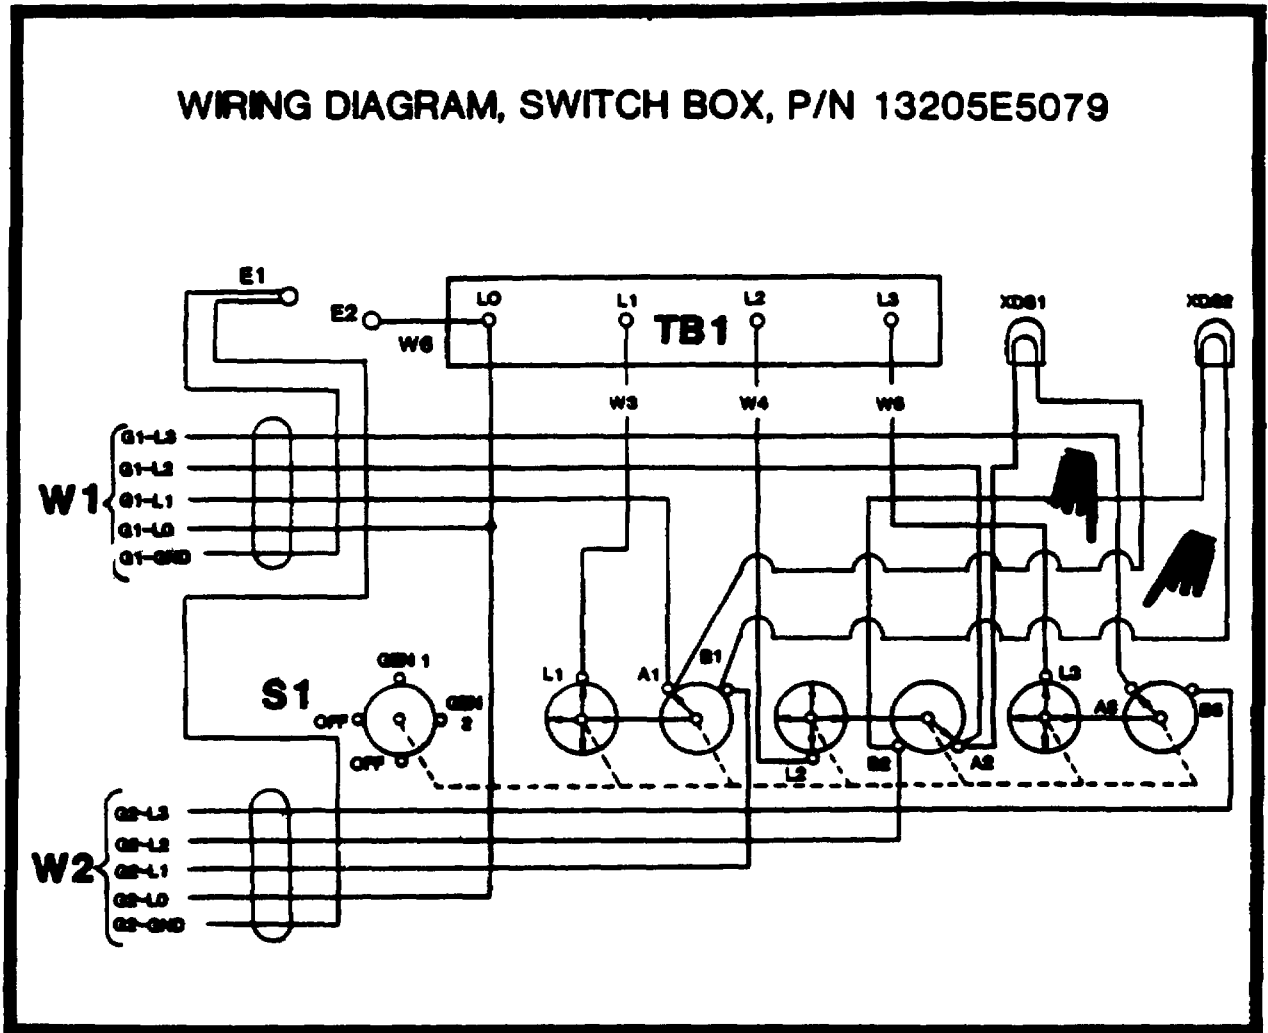
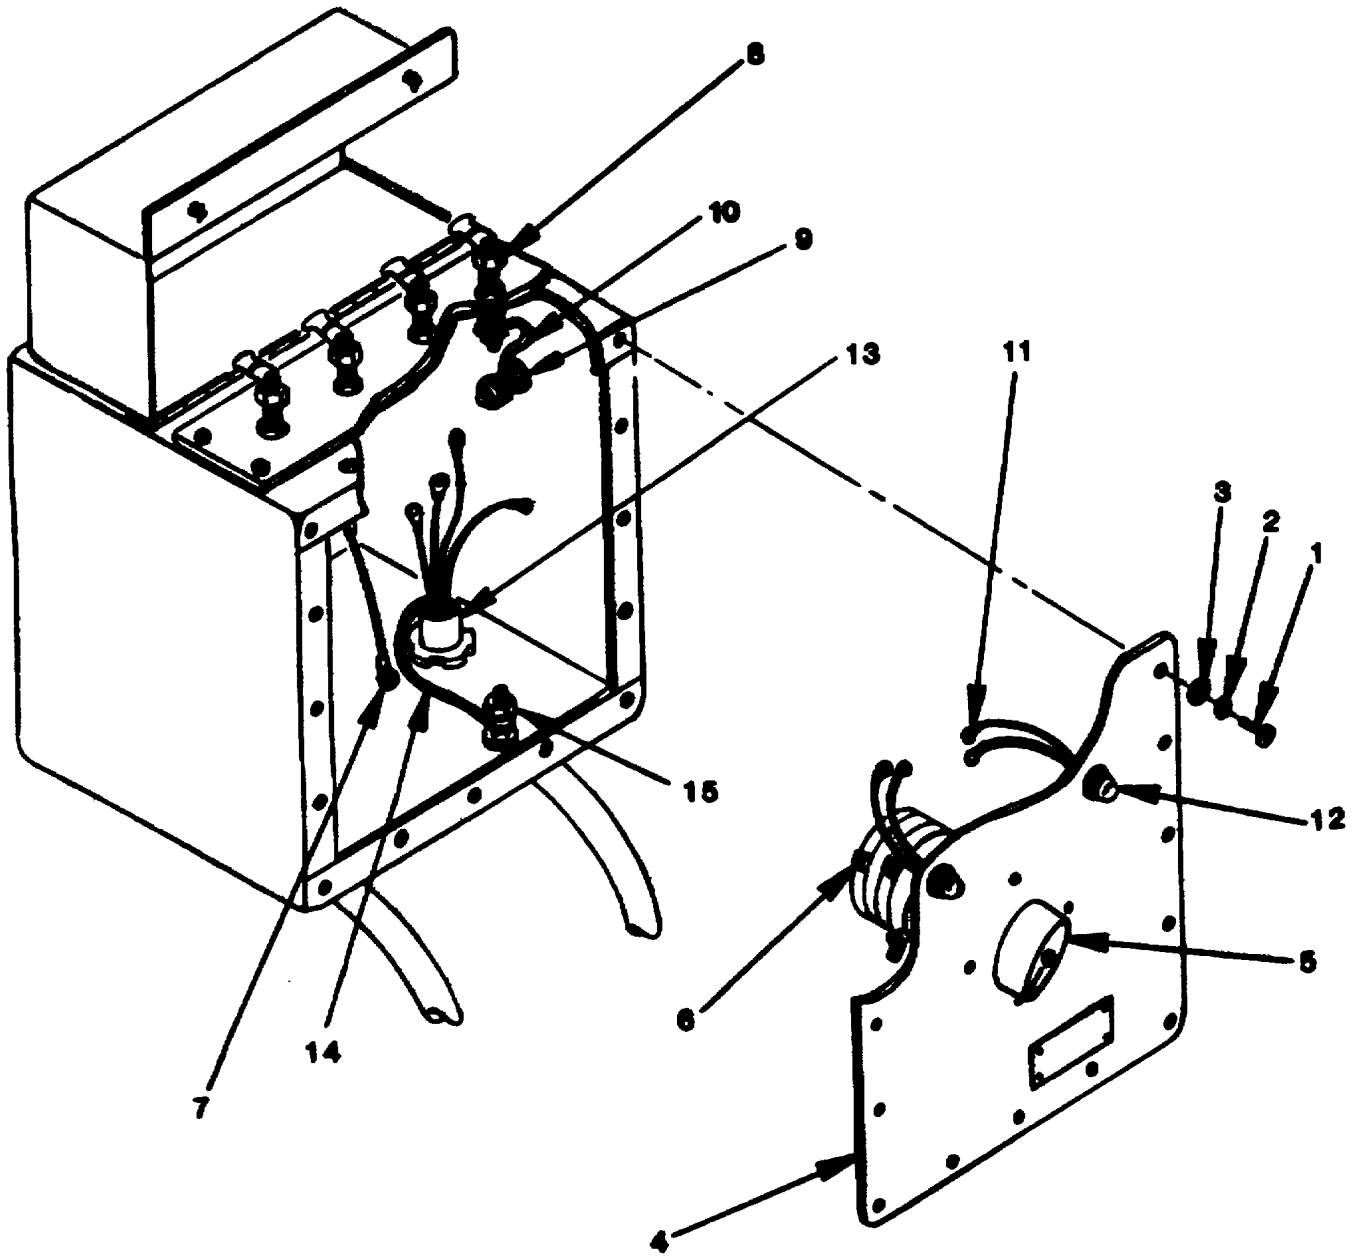
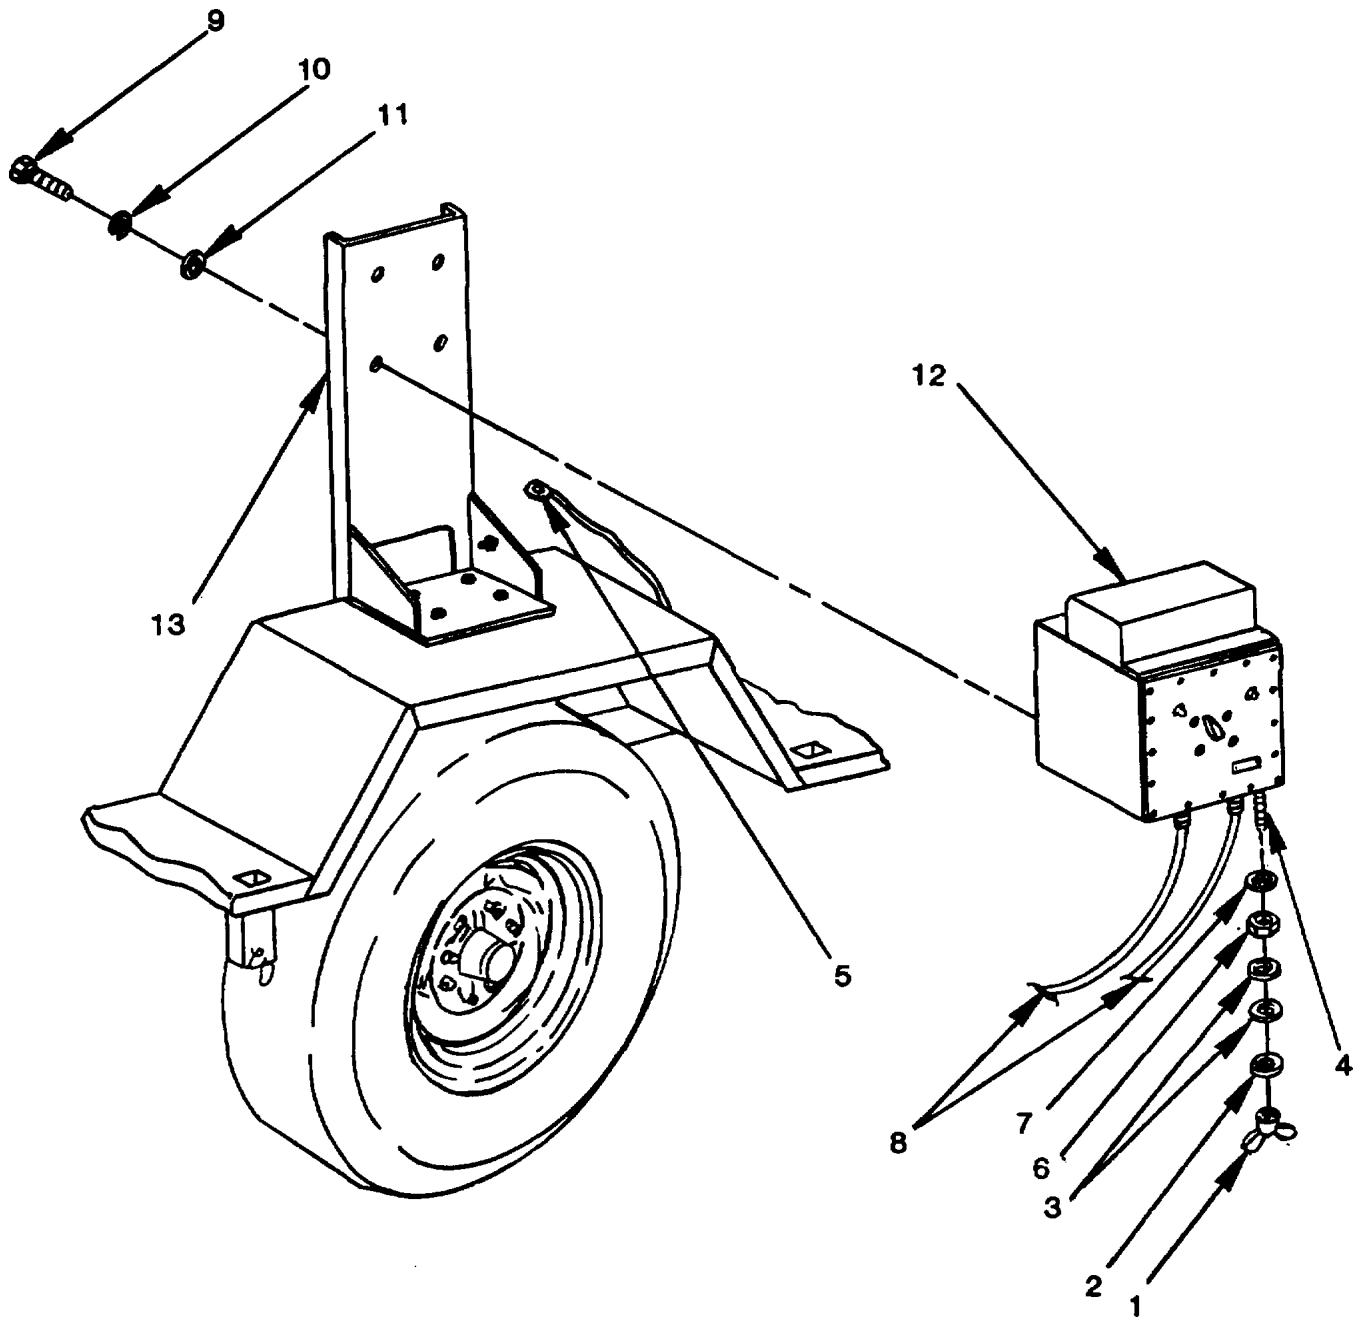
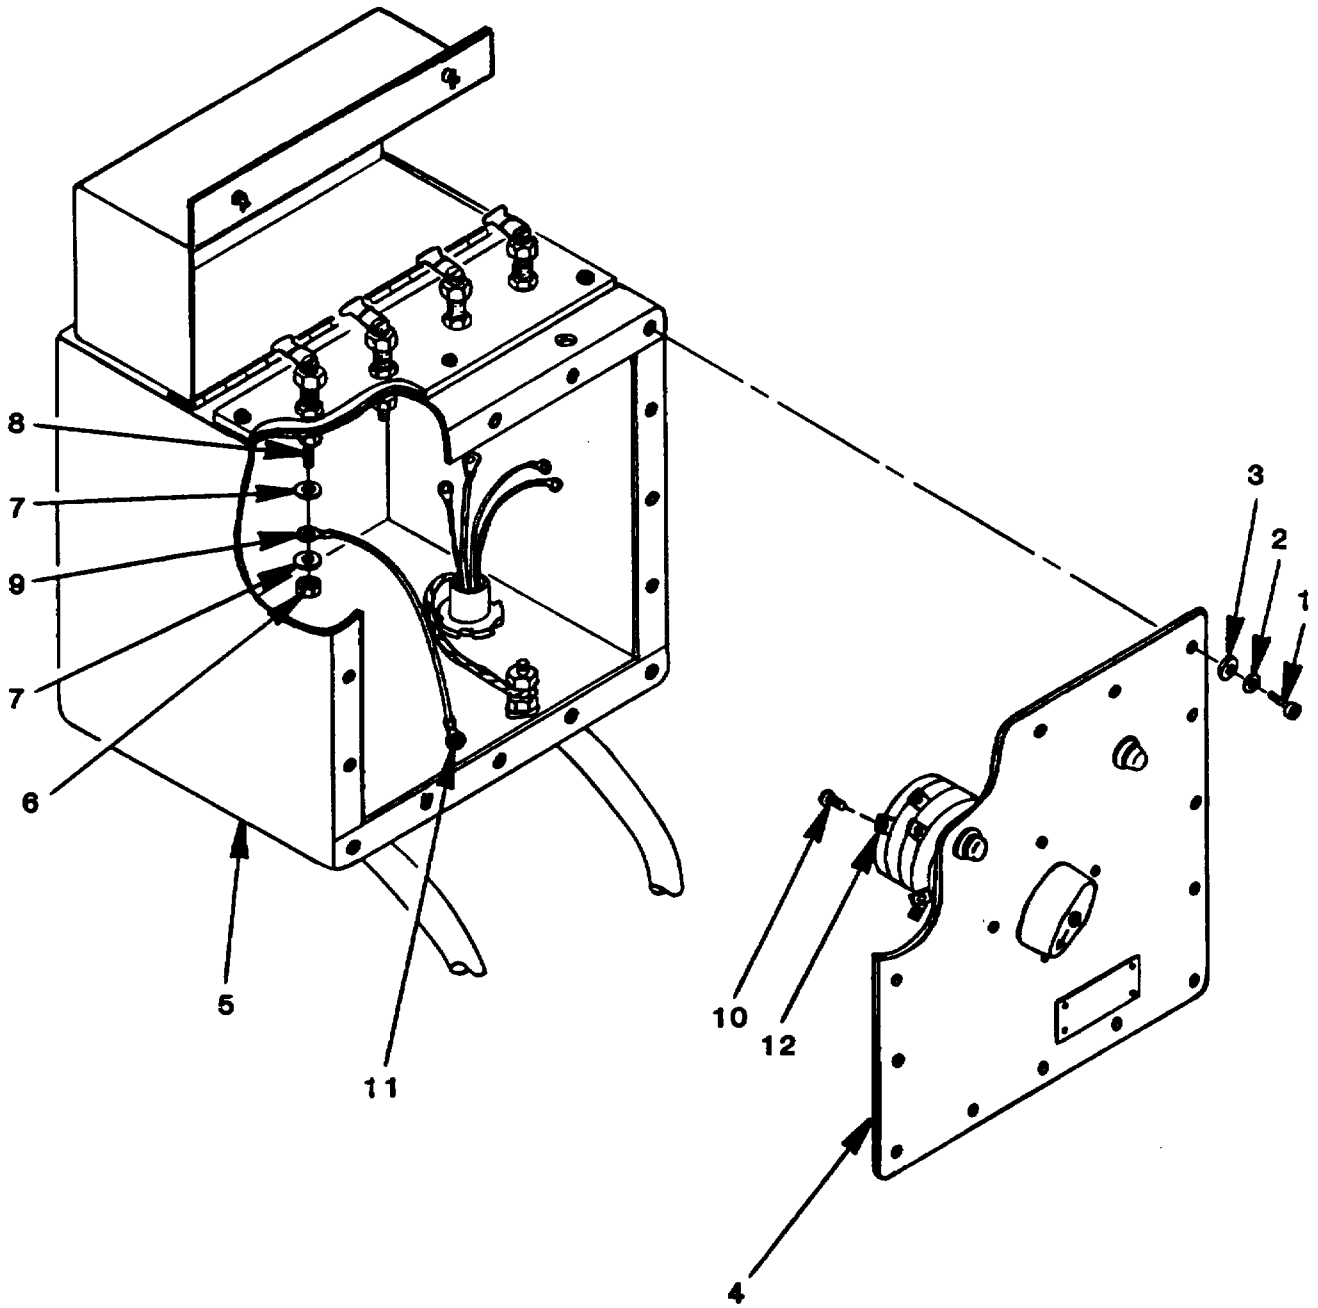

Figure 4-4. Five-Wire Switch Box Schematic Diagram. Diagram.
Figure 4-5. Switch Box Testing.
Figure 4-6. Switch Box Replacement.
Figure 4-8. Switch-to-Load Terminal Wire Replacement.
a. Test. To isolate the source of an electrical system problem, perform continuity tests on the components of the switch box as described below. Refer to the schematic diagram inside the switch box (shown in figure 4-4) to locate and identify the test points indicated in these procedures. The switch boxes, except for power cable lengths, are identical for both the AN/MJQ-32 and the AN/MJQ-33 power plants.
(1) Switch Test.
- (a) Remove 16 screws (1, figure 4-5), lockwashers (2), and flat washers (3) from switch box front panel (4) and pull panel forward.
- (c) Set rotary switch (5) to GEN 1 position.
- (d) Touch one probe to switch terminal (6) A1 and remaining probe to switch terminal L1. Repeat test between terminals A2 and L2 and terminals A3 and L3. If multimeter does not indicate continuity exists between each pair of terminals, switch is defective. Notify higher level of maintenance.
- (e) Set rotary switch (5) to GEN 2 position and repeat step (d) above, substituting terminals B1, B2, and B3 for A1, A2, and A3.
(2) Electrical Leads (Wiring Test).
- (c) Test each wire (7) between its switch terminal (6) and load (post) terminal (8) by touching probes to each of following pair of test points: L1 on switch to load (post) terminal L1, L2 on switch to load (post) terminal L2, and L3 on switch to load (post) terminal L3. If multimeter does not indicate continuity between each pair of test points replace associated wiring.
- (d) Test ground wire (10) by touching one probe to load terminal (8) LO on switch box terminal board and touch remaining probe to E2 (AC GROUND) (9) on switch box. If multimeter does not indicate continuity, replace associated wire.
(3) Light and Wire Assembly Test.
- (a) Remove 16 screws (1, figure 4-5), lockwashers (2), and flat washers (3) from switch box panel (4) and pull panel forward.
- (c) Test wires (11) and socket (12) associated with GEN 1 indicator light by testing for continuity between switch terminal (6) A2 and socket XDS1 and switch terminal A1 and socket XDS1. If multimeter does not indicate continuity exists on both of these wires, replace light and wire assembly (paragraph 4-23b).
(4) Cable Assembly Test.
- (c) Set switch box rotary switch (5) to GEN 1 position and locate power cable assembly (13) associated with switch position.
- (d) Test white wire by touching one probe of multimeter to load terminal LO on generator set and touching other probe to load terminal (8), associated with white wire, on switch box. Multimeter must indicate continuity between these points.
- (e) Repeat step (3) for black wire (between L1 on generator set and A1 on switch), red wire (between L2 on generator set and A2 on switch), and blue wire (between L3 on generator set and A3 on switch).
- (f) Test the ground wire (14) by disconnecting the ground wire that runs from generator to skid mount ground stud; disconnect wire at skid mount. Test for continuity between free end of wire and ground stud EI, EQUIPMENT (FRAME) GROUND (15), on switch box.
- (h) To test power cable assembly associated with GEN 2 switch position, perform steps (2) thru (6) substituting switch terminals B1, B2, and B3 for terminals A1, A2, and A3, at test points. Generator set load terminal designations and wire color-coding are identical for both power cables.
c. Removal. (See figure 4-6). The switch boxes, one on each power plant, are located on the roadside rear fender extension for AN/MJQ-32 and on the roadside fender for AN/MJQ-33. Switch boxes, except for power cable lengths, are identical for both power plants.
(1) Removal.
- (a) Remove wingnut (1, figure 4-6), lockwasher (2), and flatwasher (3) from EQUIPMENT (Frame) GROUND stud (4). Slide ground wire (5) off stud and remove remaining flat washer (3), nut (6), and star washer (7).
- (b) Detach load cables (8) from load terminals on generator sets. (Refer to TM 5-6115-615-12.) (c) Remove four screws (9), lockwashers (10), and flat washers (11) securing switch box (12) to bracket (13).
- (1) Position switch box (12) on bracket (13).
- (2) Insert four flat washers (11), lockwashers (10), and screws (9) through bracket and into switch box. Tighten hardware to secure switch box.
There are four load terminals on the switch box terminal board. This procedure is typical for all four. When reconnecting wires, refer to the schematic inside the switch box (figure 4-4) and to the identification bands on the wires.
b. Removal. (See figure 4-8.) There are three wires connecting the switch to the load terminals; and one ground wire connecting load terminal LO to AC GROUND E2 (located on side of switch box). When attaching wires, refer to the schematic inside the switch box (figure 4-4) and to the identification bands on the wires.
(1) Removal (Switch-to-Load Terminal Wiring).
- (a) Remove 16 screws (1, figure 4-8), lockwashers (2) and flat washers (3) securing cover (4) to switch box (5) and take cover off switch box.
- (b) Remove nut (6) two lockwashers (7) and wire terminal lug (9) from terminal stud (8) inside switch box (5).